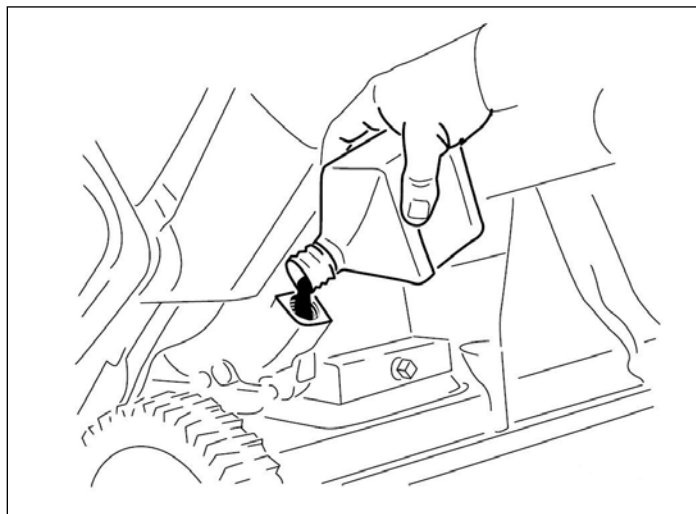

Fig. 016
8. With the machine in the operating position, carefully pour oil into the oil fill hole. Wait 3 minutes for the oil to settle and add enough to bring it to the point of overflow (Fig. 016).